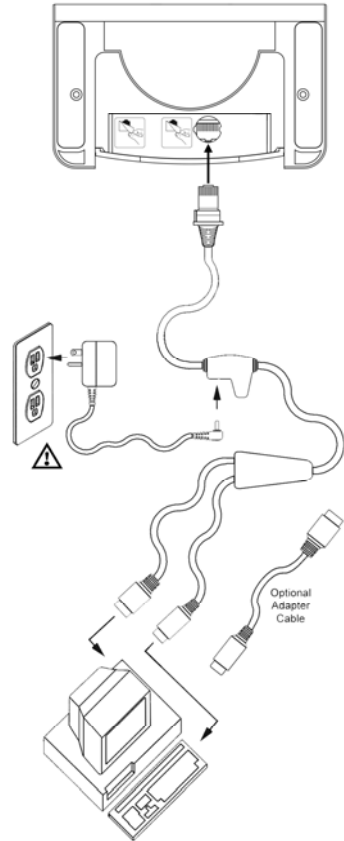

Figure 6.
3. Connect the keyed VLink cable to the 10-pin Multi-Interface jack. It is the only circular keyed jack located on the bottom of the 7820 (see figure 6).